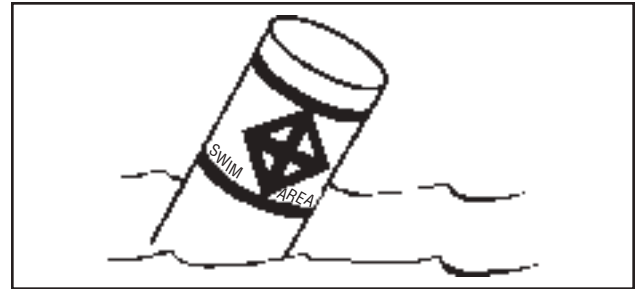

FIGURE 2.8 SWIM AREA BUOY
9. Swim only in areas designated as safe for swimming. These are usually marked with a swim area buoy (**Figure 2.8**). Do not swim alone or at night.